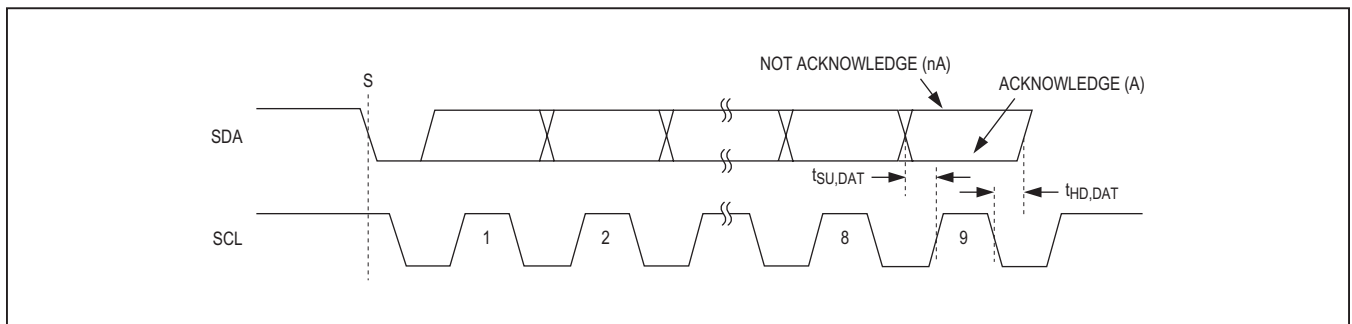

Figure 7. I2C Acknowledge (A) and Not-Acknowledge (nA)
Both the I2C bus master and the MAX8973A (slave) generate acknowledge bits when receiving data. The acknowledge bit is the last bit of each nine-bit data packet. To generate an acknowledge (A), the receiving device must pull SDA low before the rising edge of the acknowledge-related clock pulse (ninth pulse) and keep it low during the high period of the clock pulse (Figure 7).